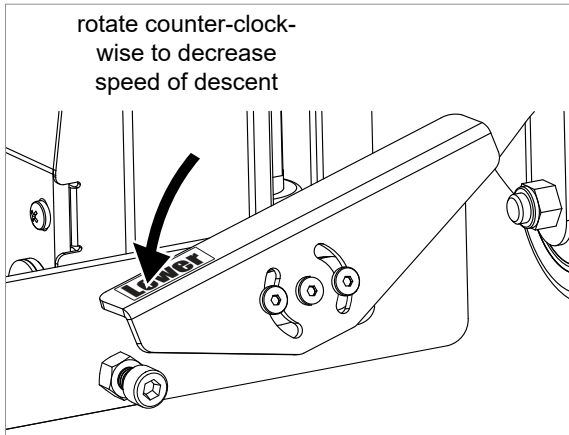
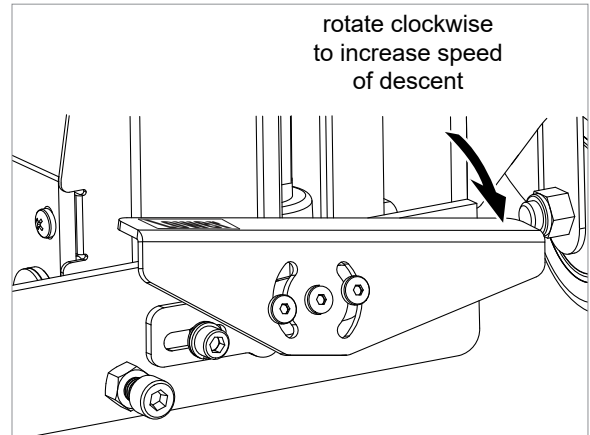

Fig. 5
Fig. 6
- To decrease the speed at which the saw lowers, rotate the release lever counter-clockwise a small amount (see Fig. 5). To increase the speed at which the saw lowers, rotate the release lever clockwise a small amount (see Fig. 6).